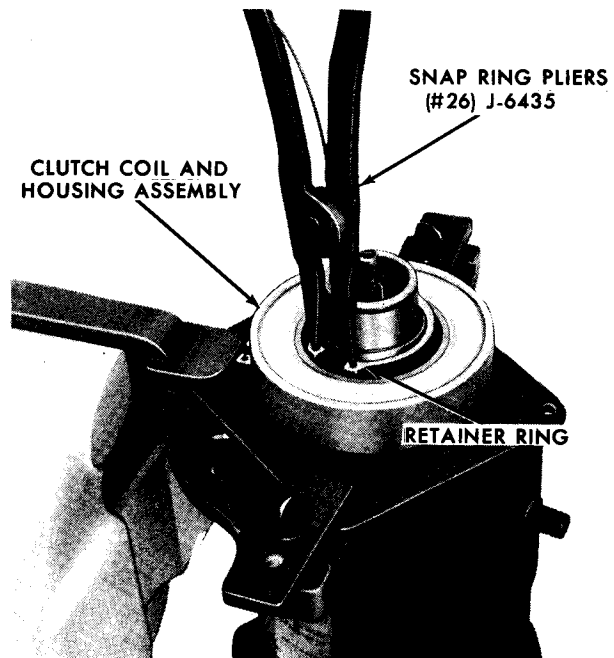

Figure 83—Removing Coil Housing Retaining Ring
3. Remove coil housing retaining ring using Snap-Ring Pliers J-6435 (#26) (figure 83).